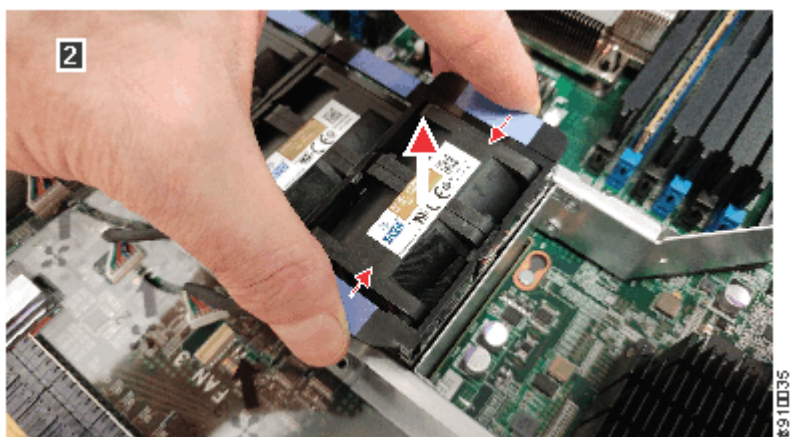

Figure 105. Removing the fan module
7. Hold the fan module between your finger and thumb at the blue touch points. Squeeze gently and lift the fan module out of the node canister, as Figure 105 on page 144 shows.